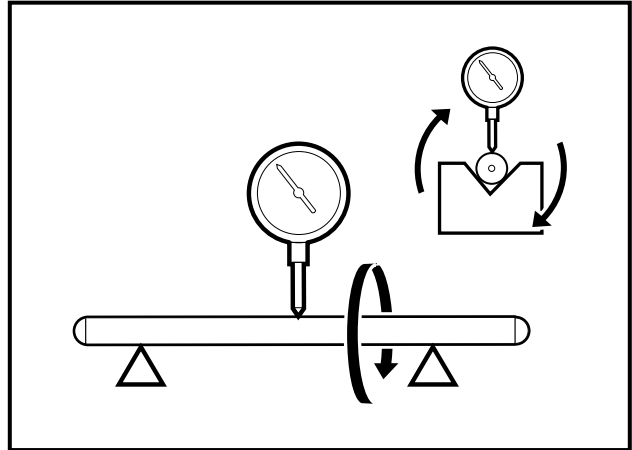

Figure 13-35 Check For Push Rod Distortion
1. Support the rod in V blocks at each end of the rod. Position a dial gauge perpendicular to the rod (Figure 13-35, Page 13-19).